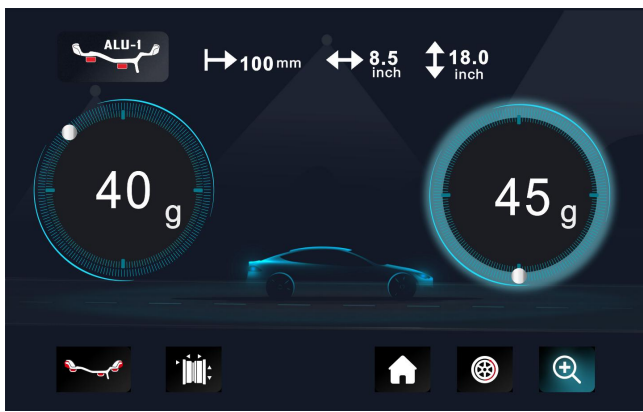

Fig. 6
4.2.5. Press  , the displays with right LED's lit up full indicate the correct angular position where to mount the counterweights, 6 o'clock position outside, as Fig.6, add the counterweight.